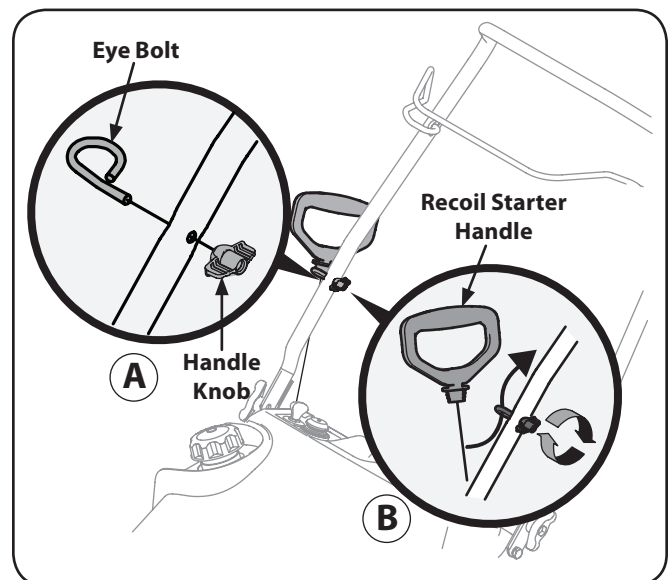

Figure 3-7
- Place the eye bolt and handle knob on the upper handle as shown in Figure 3-7. Do not fully tighten the hardware until instructed to do so.
4. Slip the recoil starter rope into the eye bolt from the back of the snow thrower. See Figure 3-7.